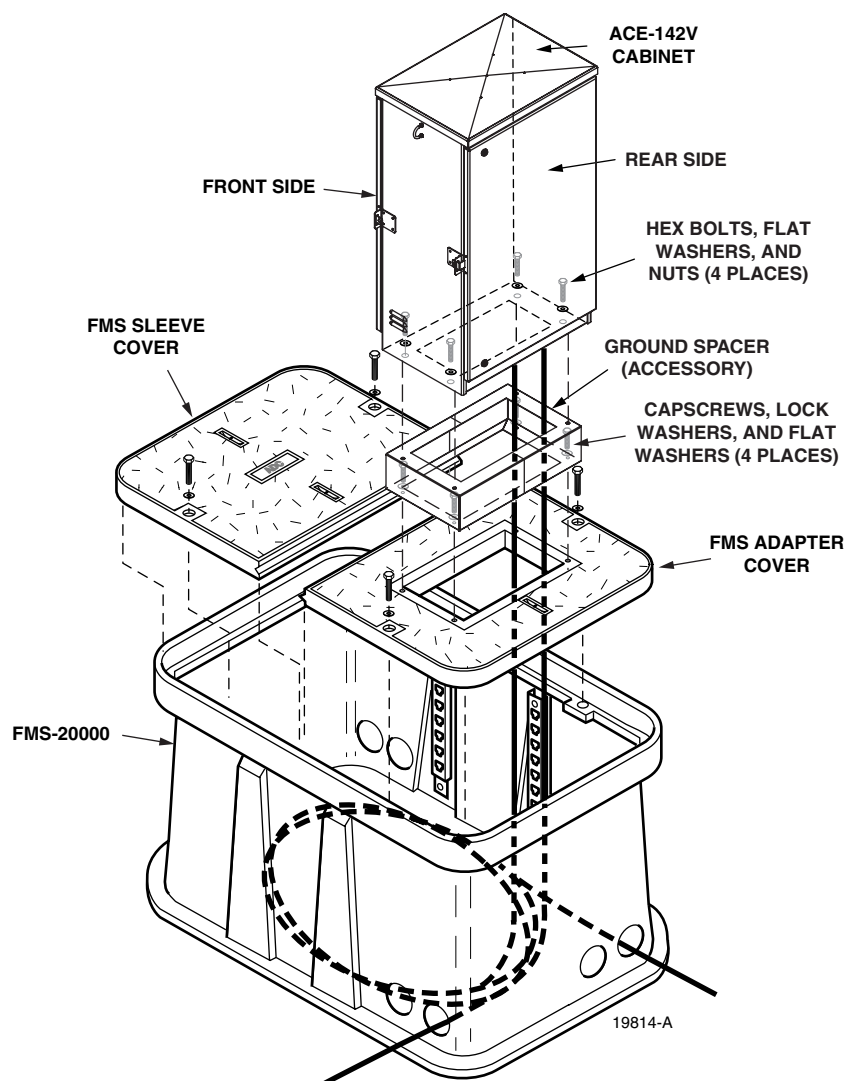

Figure 6. Mounting The ACE-142V Cabinet on the FMS-20000
1. Mount the FMS adapter cover on the FMS and secure using the two capscrews and flat washers provided with the cover as shown in Figure 6. Tighten each capscrew securely.